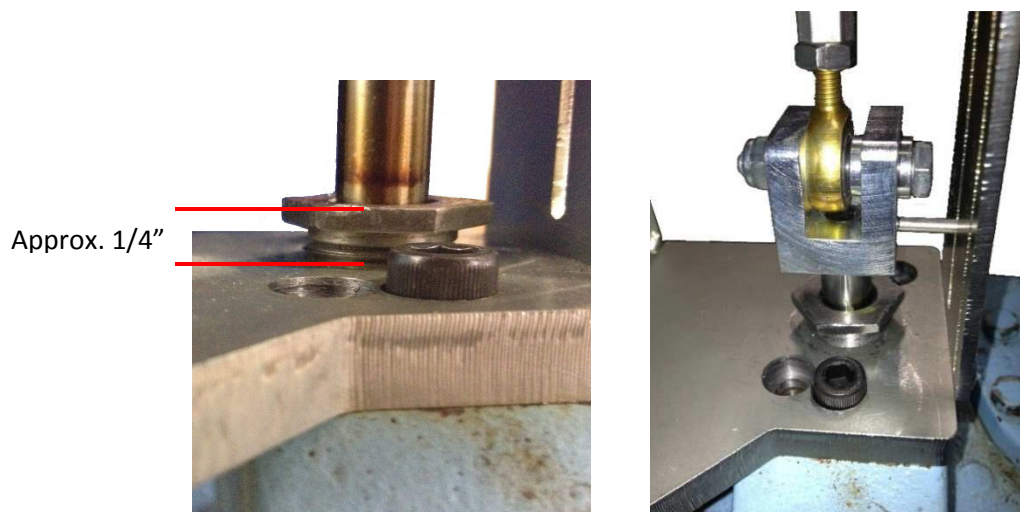

Figure 11: Packing Nut Tightened
9. Screw packing nut into bracket in order to tighten the valve packing. It is recommended to first tighten the packing nut by hand as much as possible. Then using a crescent wrench, tighten the packing by another half-turn. This should make the packing sufficiently tight around the stem, but still allow the stem to slide easily through the packing. Move the stem up and down by hand. If it feels too loose, tighten the nut slightly. **NOTE: Do NOT over tighten the packing nut! The packing nut can always be tightened later if necessary.** Figure 11 shows approximately where the packing nut should be after this step.